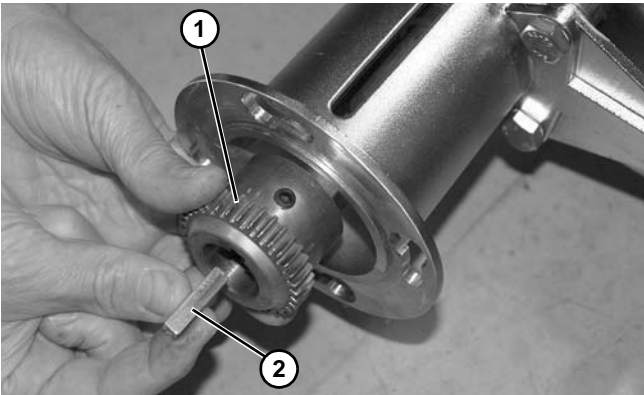

Figure 65
- Remove drive gear (**Figure 65, item 1**) and key (**Figure 65, item 2**) from the center drive shaft.